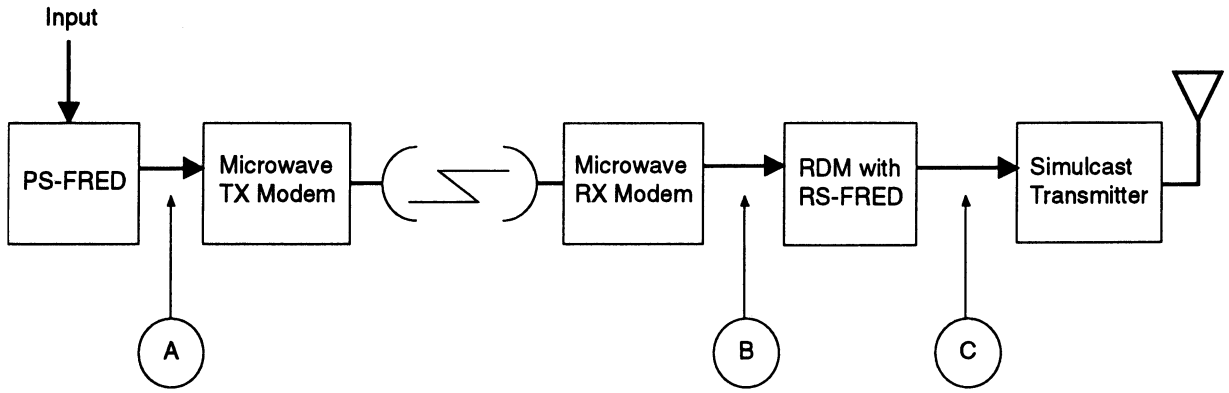
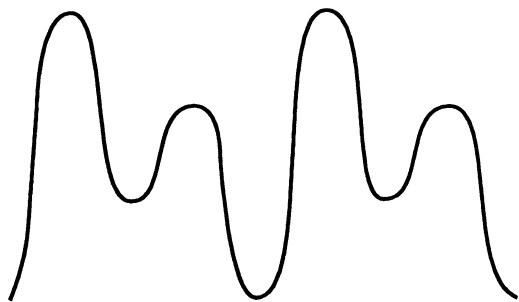
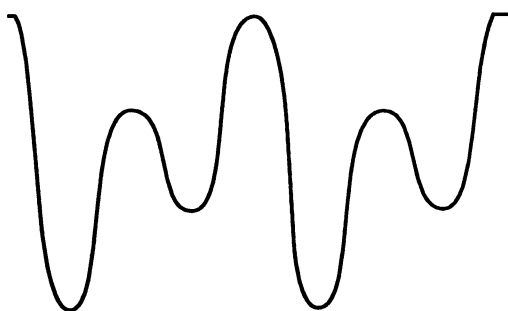

Figure 18. Typical FRED-capable Simulcast Transmit Path
Figure 23. Non-inverting Receiver: PS-FRED to RDM Polarity Inversion
Figure 24. Non-inverting Receiver: PS-FRED to RDM and RDM to Transmitter Polarity Inversion
The typical transmit path for a four-level simulcast system is shown in Figure 18. Audio originates at the PS-FRED module and connects (at point A) to the TX modem. The audio is routed to each RX modem at the remote sites and passed (at point B) to the RDM (with a RS-FRED daughter board). Finally, the RDM connects (at point C) to the simulcast transmitter. Existing in this path, are three opportunities for inverted audio.
- If it looks like Figure 23, there has been an inversion between the PS-FRED module and the RDM. Check the connections at points A and B (in Figure 18) for crossed wires and repeat steps 1 through 7.
- If it looks like Figure 24, there has been an inversion between the PS-FRED module and the RDM as well as between the RDM and the simulcast transmitter. Check the connections at points A, B, and C (in Figure 18) for crossed wires and repeat steps 1 through 7.
- If it looks like Figure 28, there has been an inversion between the PS-FRED module and the RDM as well as between the RDM and the simulcast transmitter. Check the connections at points A, B, and C (in Figure 18) for crossed wires and repeat steps 1 through 7.